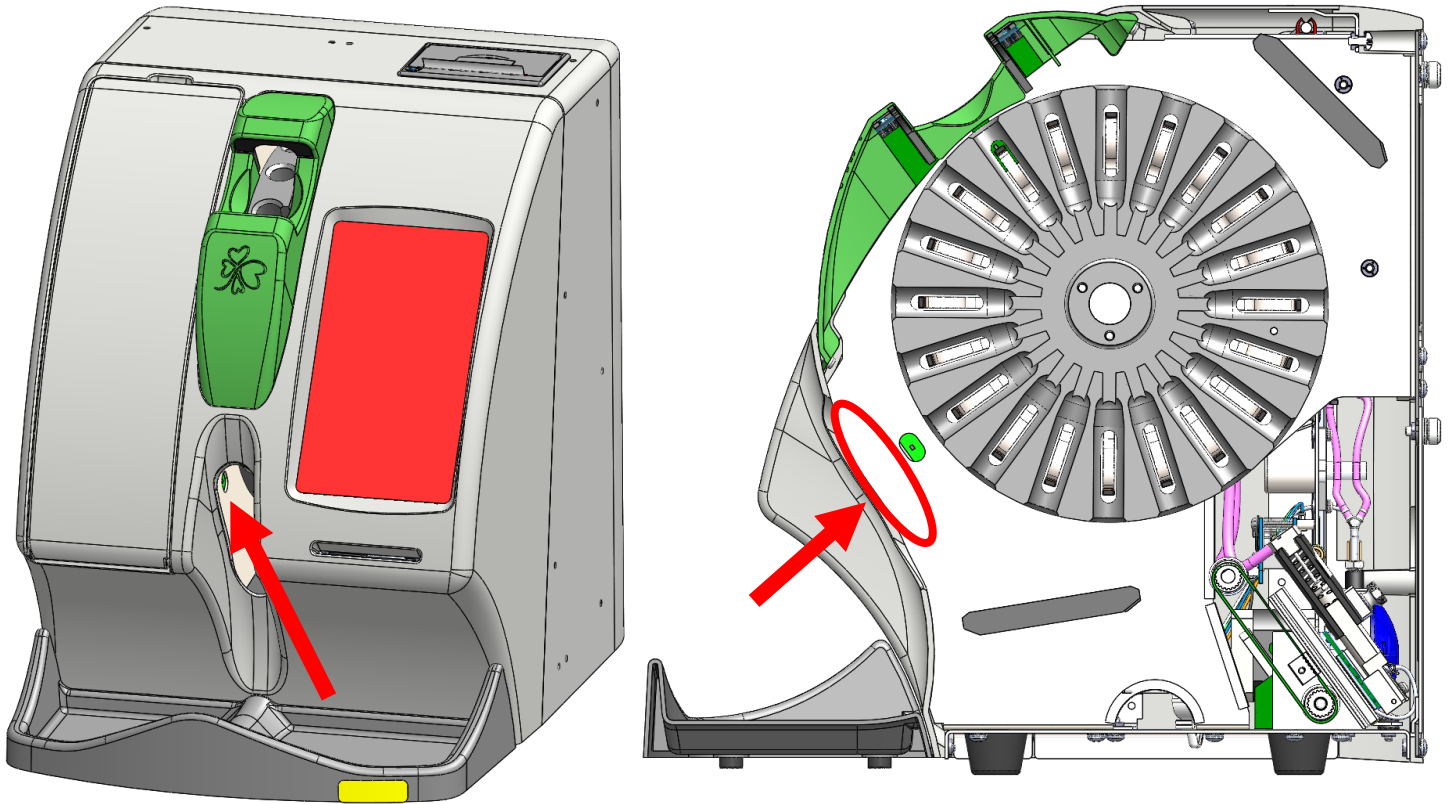

Figure 2
1. Place the instrument on a flat surface, with the front of the device facing the operator. Use an alcohol wipe, or a cloth dampened with 99% isopropyl alcohol to wipe the left-side metal wall behind the ejection port. Wipe dry with a dry cloth. This area is circled in the cutaway view in Figure 2. Discard all consumable items in this step appropriately.